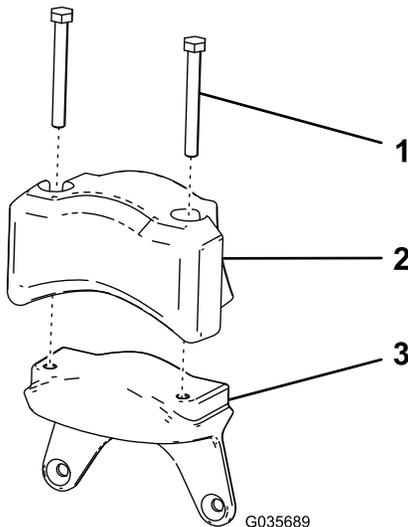

Figure 8
- Assemble the electric counterweight and 2 cap screws (5/16 x 2-3/4 inches) that you removed in Removing the Electric Motor Counterweight \(page 3\) to the new weight (Figure 8).